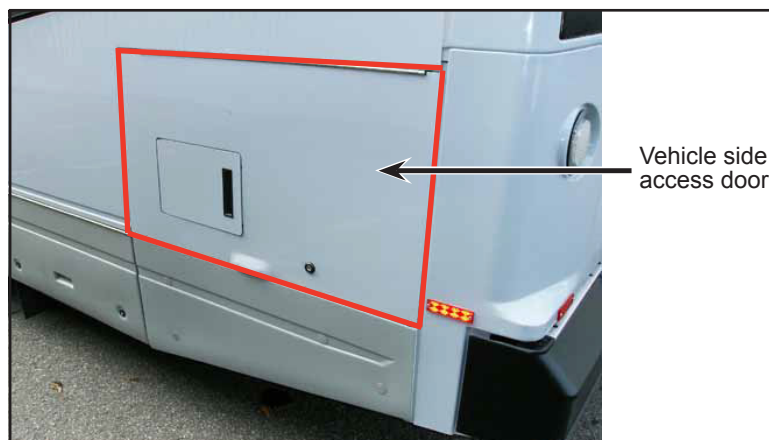

Figure 2 - Typical View of Side Access Door
- 1.5. Open the vehicle side access door (see Figure 2).